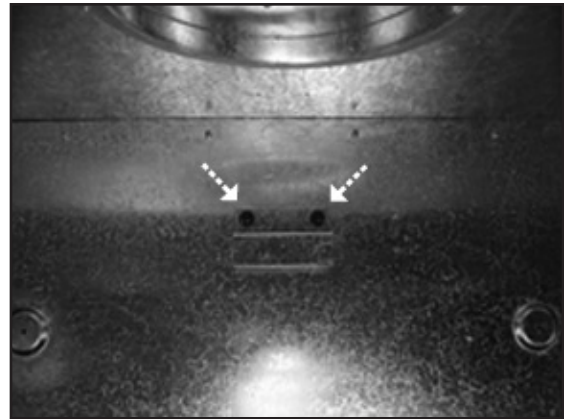

Figure 1
1. Look into fireplace opening and locate back panel retaining clip positioned against rear wall of fireplace. (Figure 1). Remove (2) screws attaching clip to rear wall and set clip and screws aside. Position rear panel against rear wall and reattach clip with (2) screws.
2. Locate left panel retaining clip and remove (2) screws and set clip and screws aside. Position left panel against left wall and reattach clip with (2) screws.
1. INSTALL GB DOOR TRACKS AND HINGE SPRINGS AS ILLUSTRATED IN FIGURE 1 USING 6 SCREWS IN KIT.